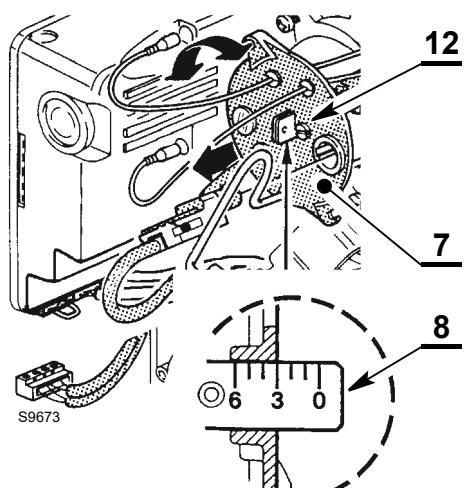

Fig. 9
- turn the adjustment screw 12)(Fig. 9) clockwise or anti-clockwise until the notch on the regulating rod 8)(Fig. 9) lines up with the outer surface of the nozzle-holder assembly 7)(Fig. 9).
The regulating rod 8)(Fig. 9) is calibrated to notch 3 coinciding with the outer surface of the nozzle-holder assembly 7)(Fig. 9) as shown in Tab. G page 21.